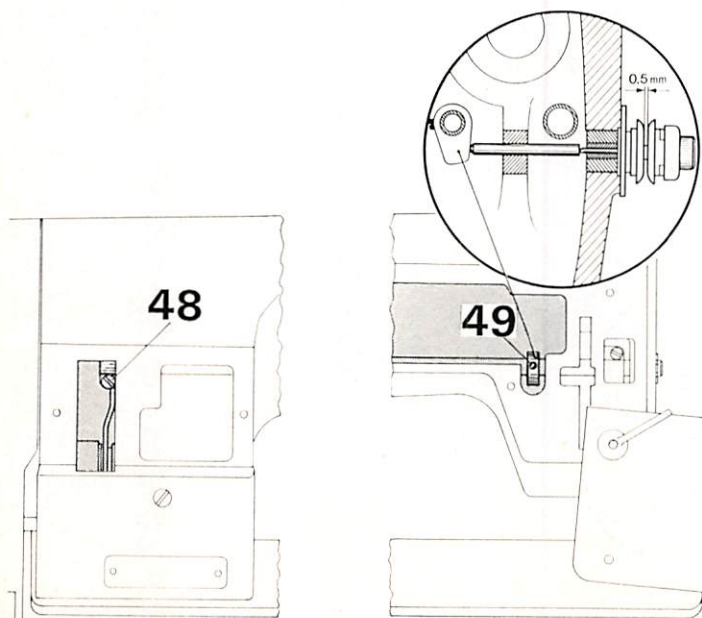

Fig. 26
24. Adjusting the Tension Release (Fig. 26)